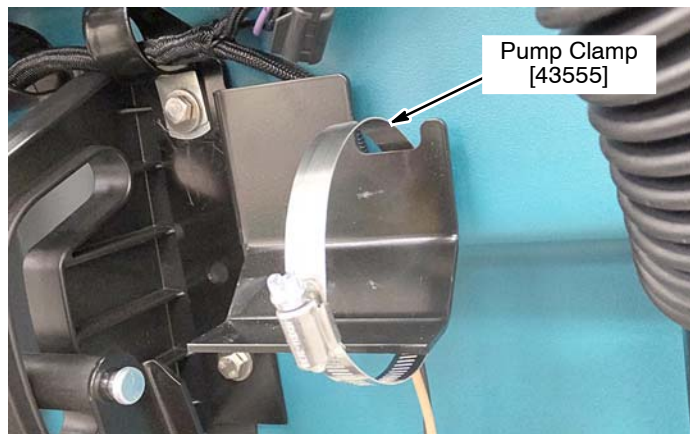

Fig. 17
3. Add pump clamp to bracket as shown (Figure 17).